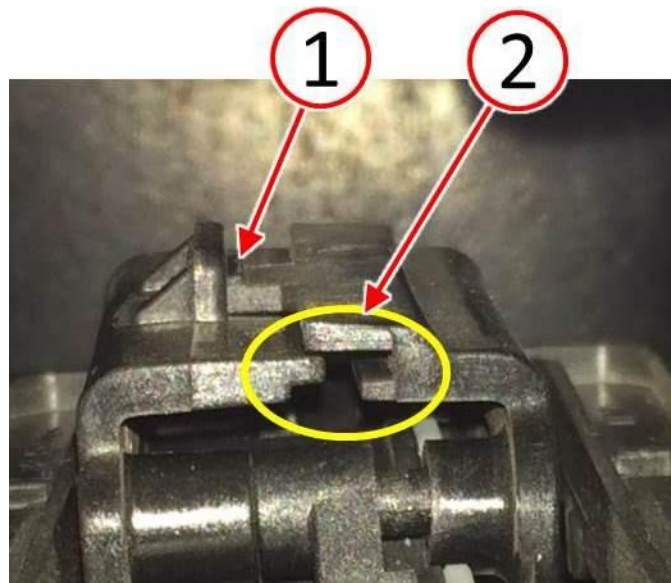

Fig. 3 Inspect Actuator Motor Case Housing For Separation
4. Inspect the AGS actuator motor case housing for unlocked retainer (1) and separation (2) of the actuator motor case housing halves (Fig. 3).
5. Is an unlocked retainer (1) and/or housing separation (2) visible? As shown in (Fig. 3).